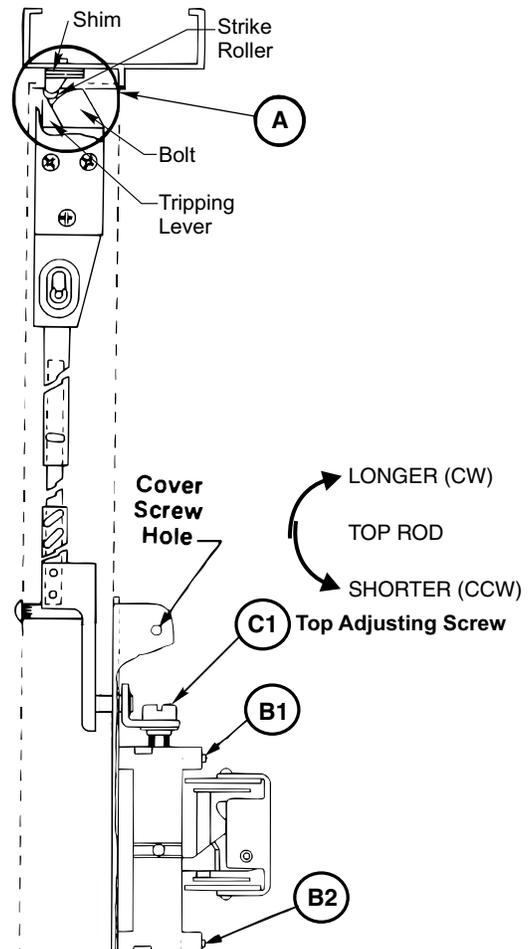

Figure 28
- A. Rehang door plumb and true to opening. Set strike roller between tripping lever and bolt. **DO NOT PRELOAD BOLT.** Shim strike as needed. (Figure 28)
1. Use 3/32" (2.4) hex wrench to loosen set screws B1 and B2. (Figure 28)
2. Adjust top rod first with adjusting screw C1. (Figure 28) With device in dogged position (panic devices) or touchbar fully depressed (fire devices) adjust top rod so that top latchbolt is flush and hold back feature is engaged. Lengthen top rod an additional 1/2 turn for proper latchbolt positioning.